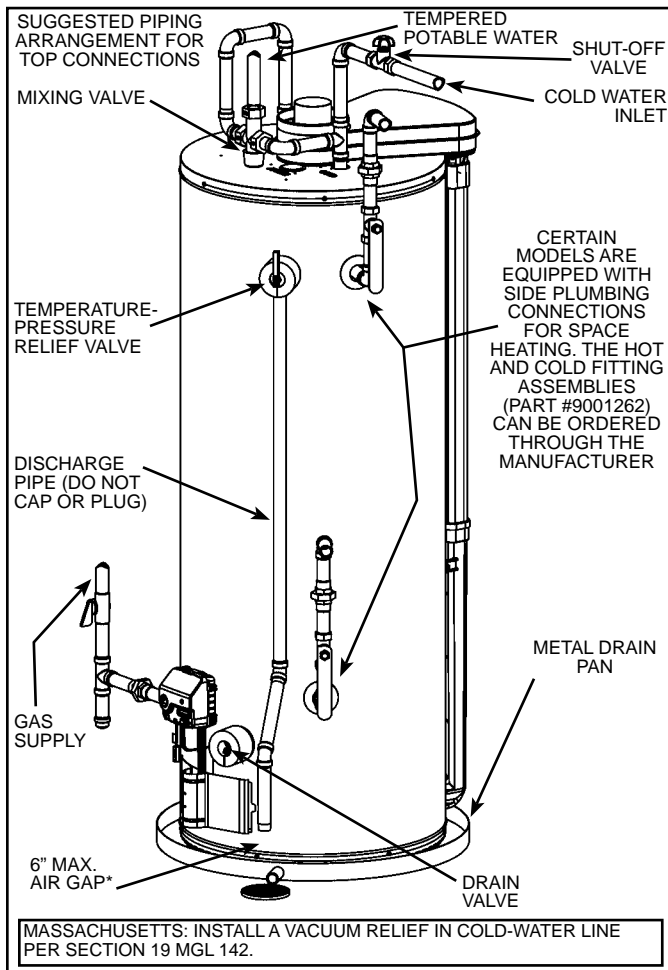

Figure 8
Models equipped with Combo Heating capabilities are shipped with the two side plumbing taps **OPEN** (items 5 and 8 in Figure 1 and see also Figure 8). If the heater is to be operated without using the side taps, these openings **must be closed** with the two pipe plugs supplied with the heaters.
Some people are more likely to be permanently injured by hot water than others. These include the elderly, children, the infirm and the physically/mentally disabled. Table 1 (published by U.S. Government Memorandum, 1978) shows the approximate time-to-burn relationship for normal adult skin. If anyone using hot water provided by the water heater being installed fits into one of these groups or if there is a local code or state law requiring a certain water temperature at the point of use, then special precautions must be taken (see Figure 8).
In addition to using lowest possible temperature setting that satisfies demand of application, a mixing valve should be installed at the water heater (see Figure 8) or at hot water taps to further reduce system water temperature. Mixing valves are available at plumbing supply stores. Consult a Qualified Installer or Service Agency. Follow mixing valve manufacturer’s instructions for installation of the valves. Before changing the factory setting on the thermostat, read the “Operating The Temperature Control System” section in this manual.